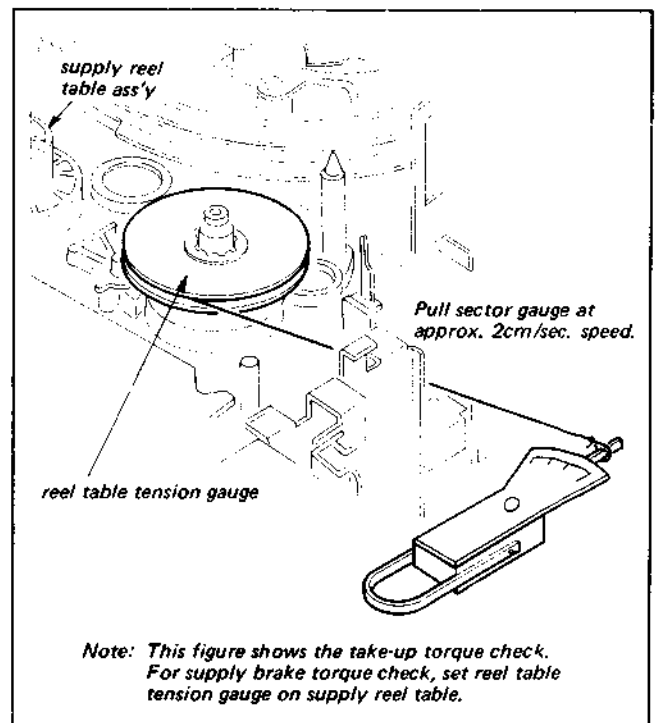

Fig. 3-40. Check of supply and take-up brake torque
- Attach the reel table tension gauge (Tool Kit Ref. No. J-5) to the take-up reel table as shown in Fig. 3-40 and hook the sector type gauge (100g full scale, Tool Kit Ref. No. J-8) to the end of the string. Pull the sector type gauge at a speed of approx. 2 cm/sec. and read the gauge value.